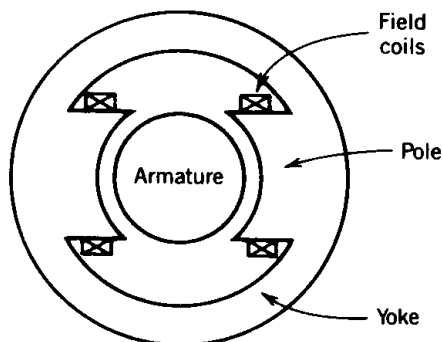

FIGURE P1.6
- 1.6 A two-pole generator, as shown in Fig. P1.6, has a magnetic circuit with the following dimensions: